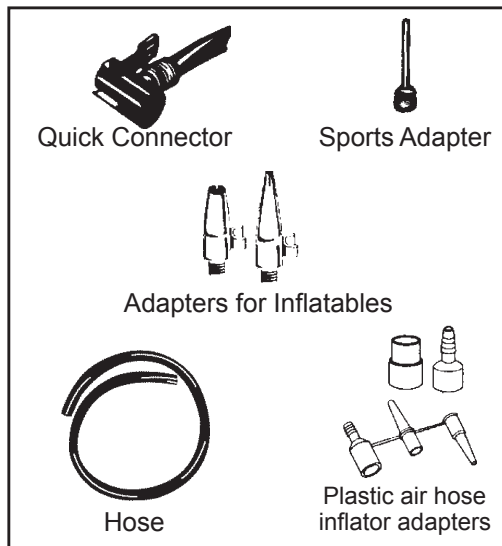

Figure 5
3. At opposite end of hose, connect suitable adapter for inflatable (Fig. 5) and insert into appropriate receiver in inflatable.
3. At other end of hose, select and insert suitable adapter (Fig. 5).